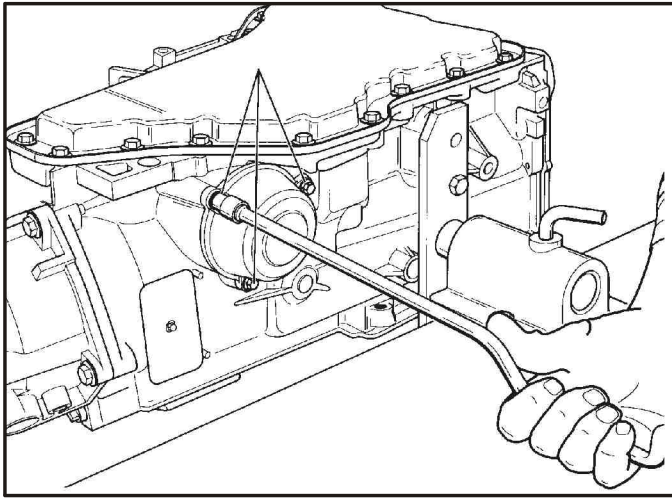

Figure 38
13. Rotate the transaxle so that the bottom pan is facing up as shown in Figure 38.
14. Using an 8mm socket, **loosen** the 3 Forward Servo Cover Retaining Bolts, as shown in Figure 38.